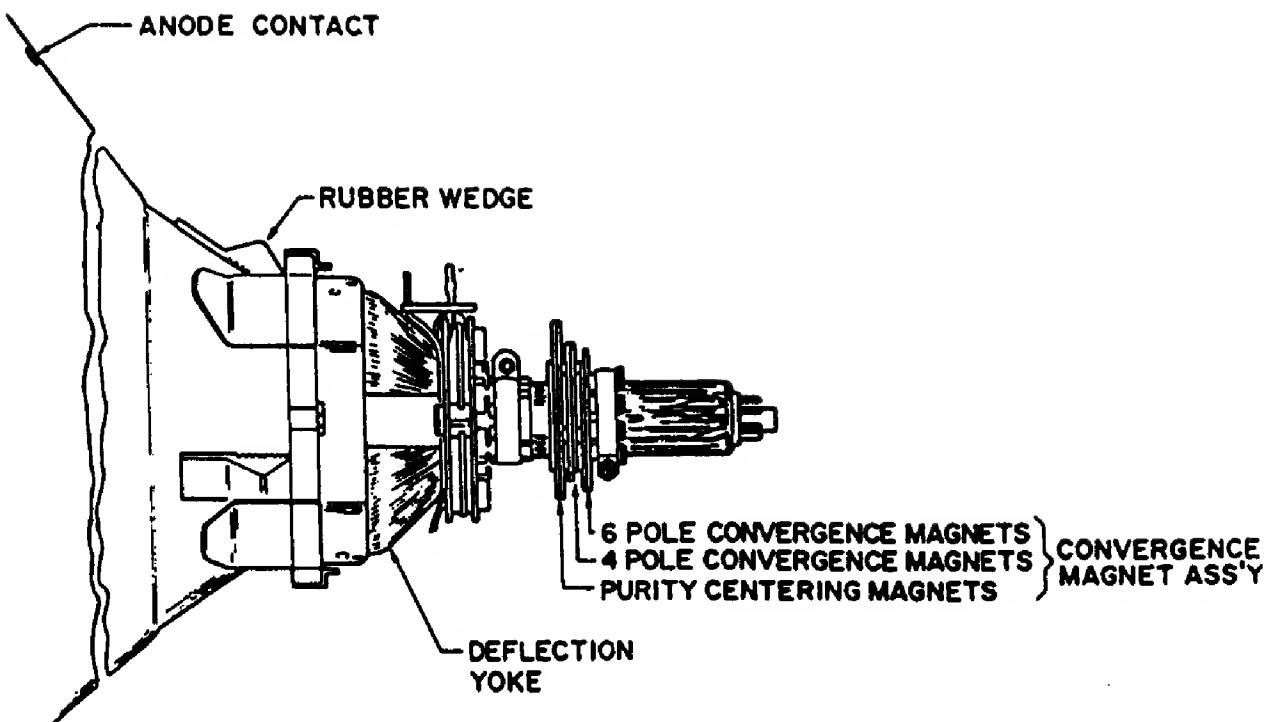

Fig. 7
2. A pair of 4-pole Convergence Magnets is provided and adjusted to converge the blue and red beams (See Fig.7).
4. A pair of 6-Pole Convergence Magnets is also provided and adjusted to converge the magenta (red + blue) to green beams (See Fig. 7) . When the Pole opens to the left and right 30° symmetrically, the magnetic field is maximized. Red and blue beams both move to the left and right (See Fig. 6) . Variation of the opening angle adjusts the convergence of magents to green vertical lines.